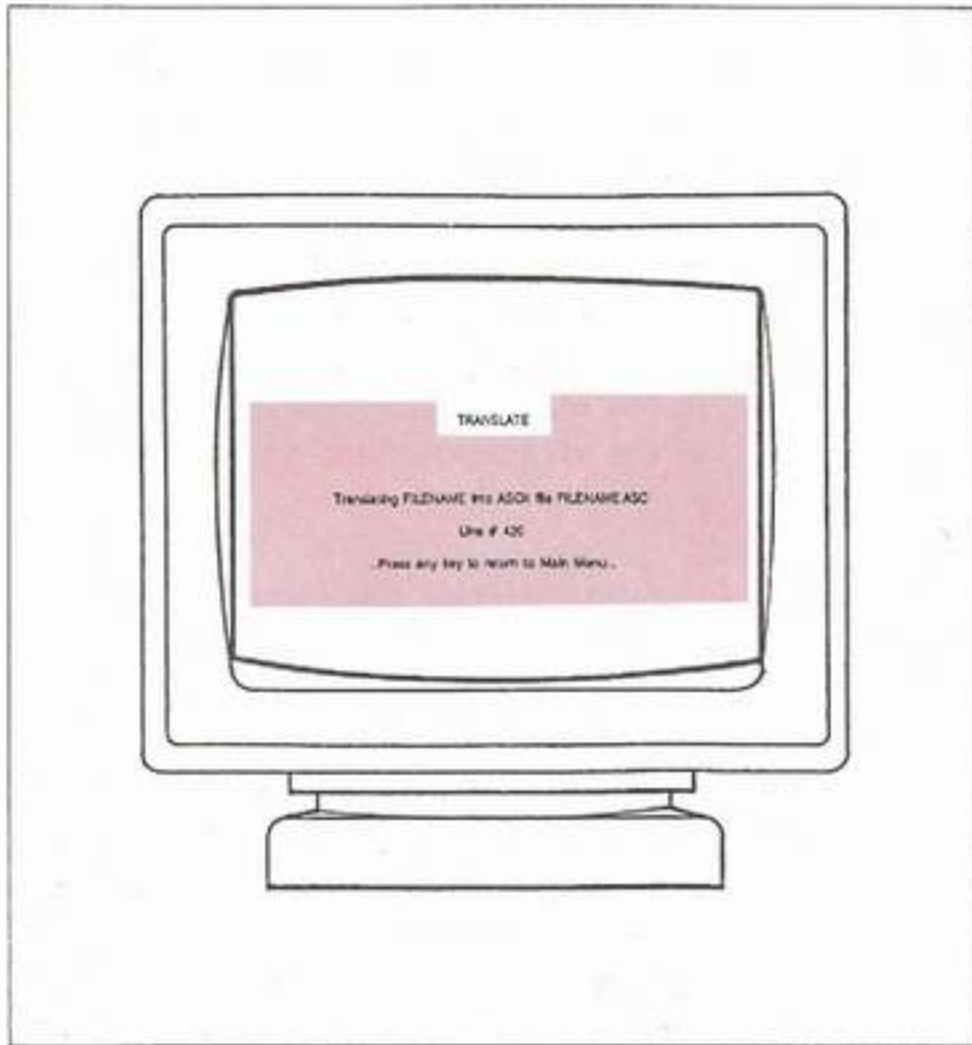

Fig. 60: The Translate Screen
When this option is selected, the user is given a list of files from which to choose. The selected file will then be converted into ASCII by PK TEACH, while the program lines are counted. At the conclusion of the translation process, the user is prompted to press any key to return to the Main Menu, as shown in Fig. 60. By this time, a converted version of the file has been added to the current directory, complete with an **.ASC** extension.
Note: Fig. 60 shows a sample number (420). This number flashes rapidly as the program is translated.